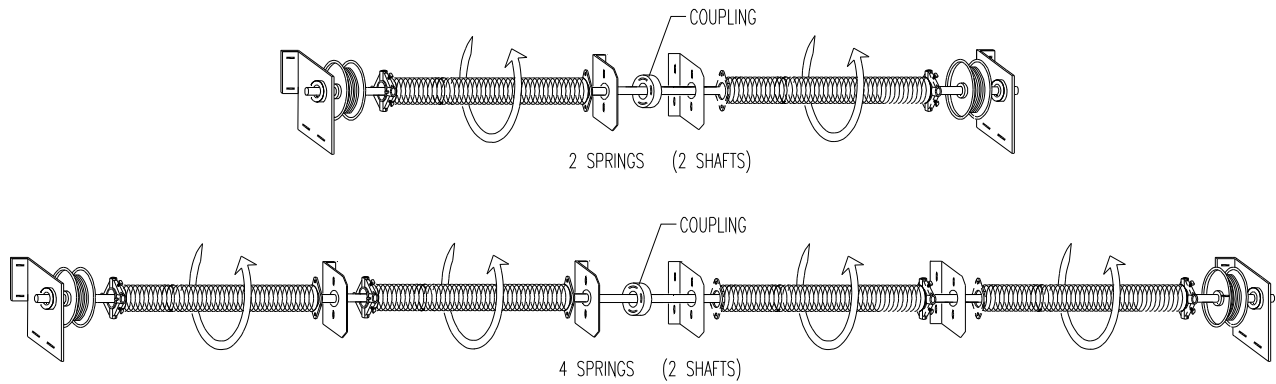

Figure 11
4.2. 2 SPRINGS (2 shafts, 2 intermediate brackets) 4 SPRINGS (2 shafts, 4 intermediate brackets) (Figure 11, next page)